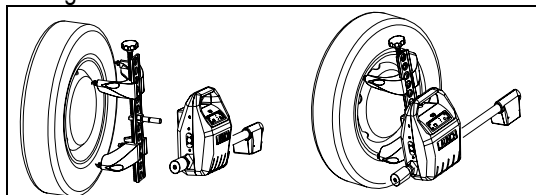

Fig.4.2
- V. Install the probe rods on the corresponding wheel clamps according to the specified position through the slide bars of the wheel clamps (Fig.4.2). The front probe rod has a 3PIN COM port, which is connected to the turntable. The connection of the front right wheel is as shown in Fig.4.2.